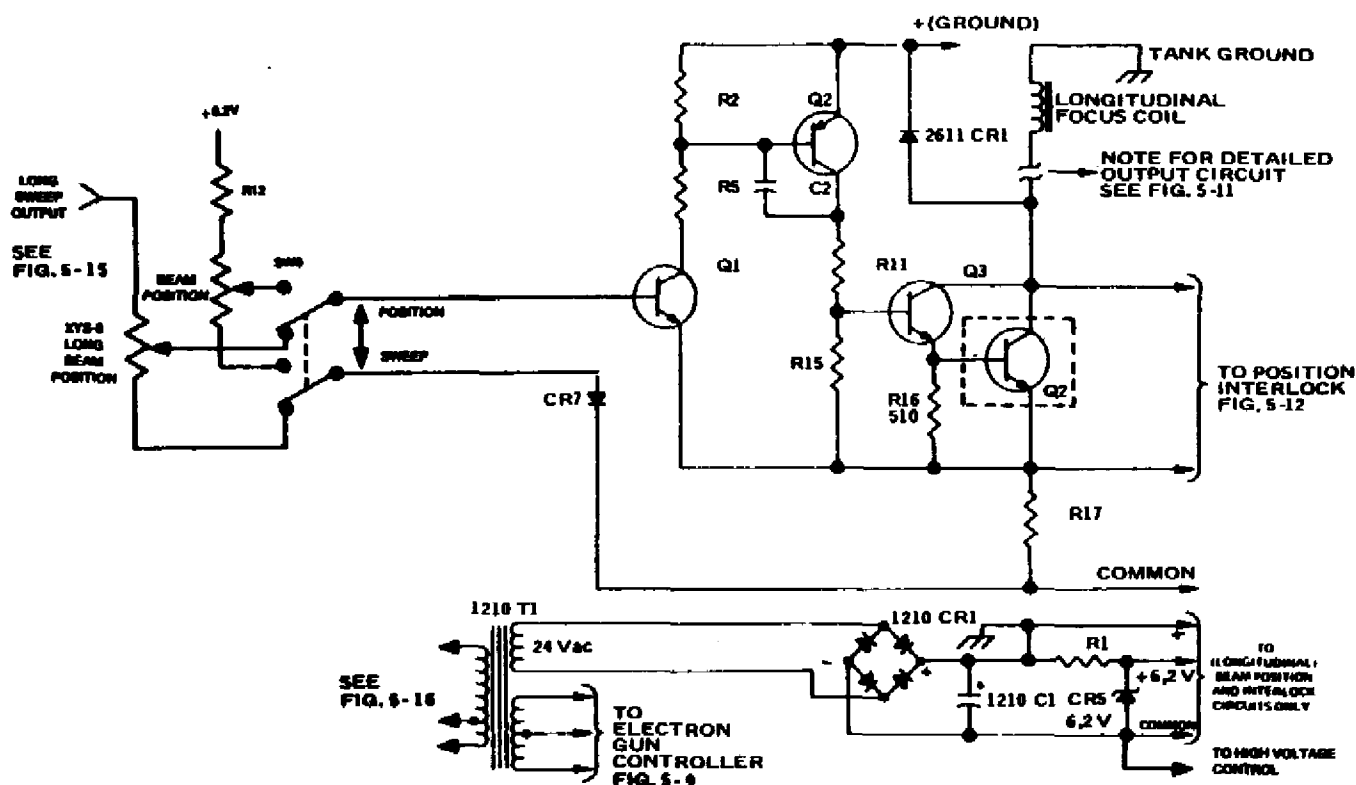

Figure 5-10. CV-8 A and B longitudinal beam position (focus) control circuit (drawing 407-3863C)
5.4.1 (Longitudinal) Beam Position (Focus) Control (Figures 5-10 and 5-11)